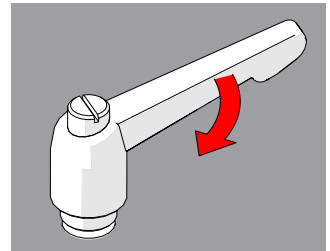

Fig. 101 - Tighten handle
3. Release the lever and utilize the new tightening position (*Fig. 101*)